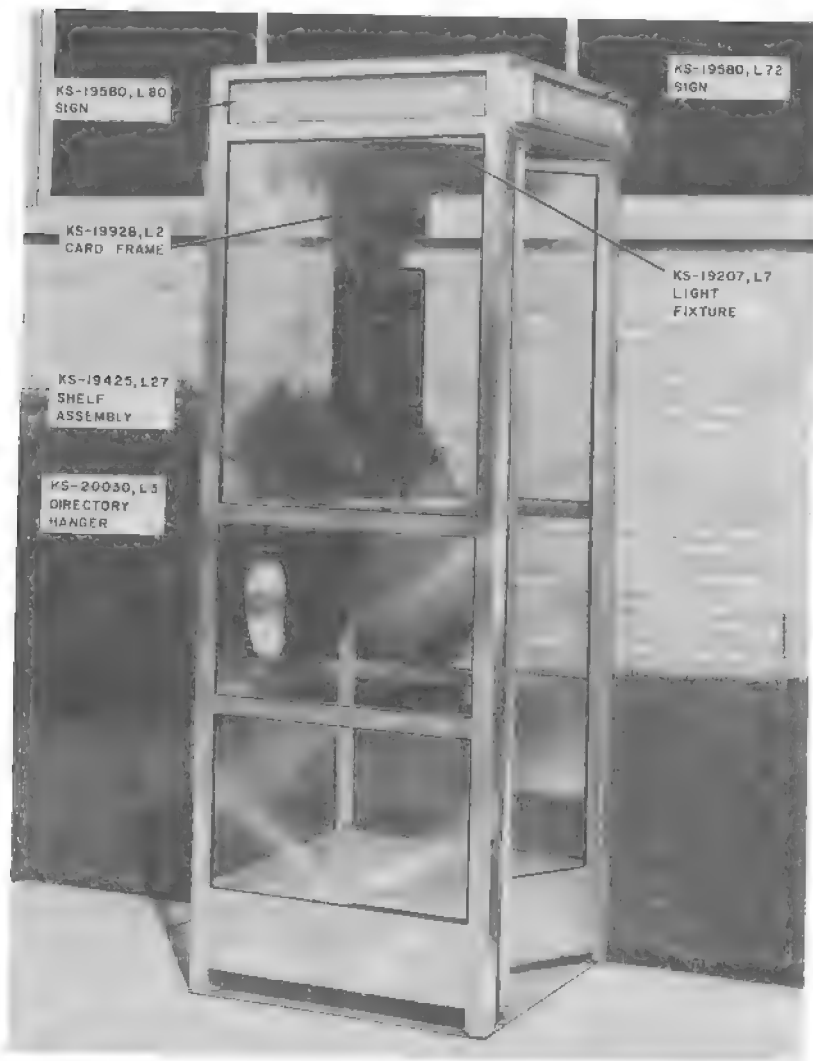

Fig. 1—KS-19425, List 2 Indoor—Outdoor Booth
2.01 The KS-19425, List 2 booth (Fig. 1) is an indoor-outdoor aluminum and glass telephone booth designed for single, side-by-side, or back-to-back installations. It is available in polished aluminum (List 60), gold (List 61), and bronze (List 62).